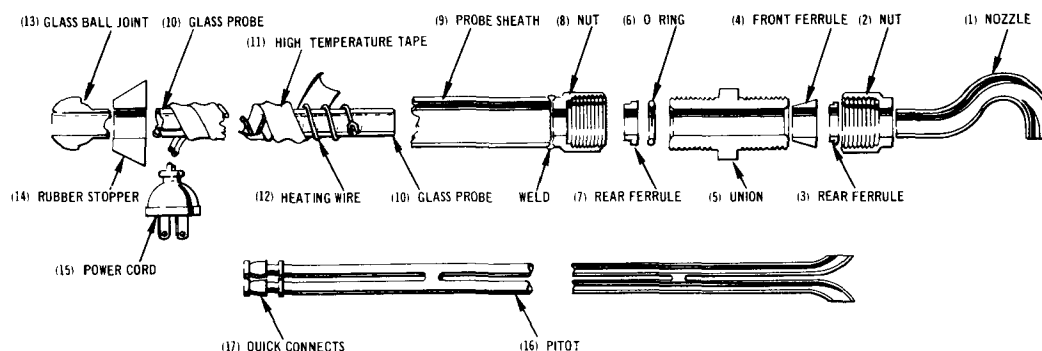

Figure 2. Pitobe assembly.
To disassemble the pitobe, first remove the Swagelok\* union (parts 2 through 7) except for the welded nut (8) as shown in Figure 2. The nozzle (1) is usually removed in the field and carried separately. Check for broken glass chips.